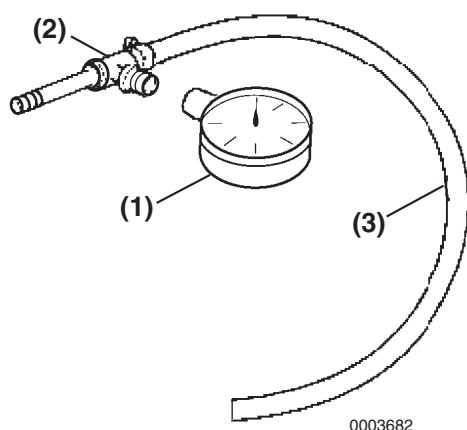

Figure 6-4
1. Assemble a suitable fuel pressure gauge (**Figure 6-4, (1)**) to a tee, and connect a short length of hose (**Figure 6-4, (3)**) to one of the remaining two legs of the tee (**Figure 6-4, (2)**).